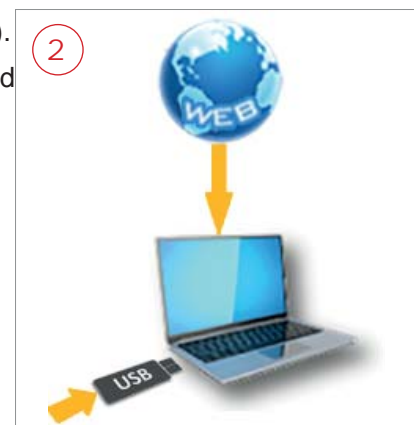

Fig. 12
- 2) Insert the USB PEN DRIVE into a PC connected to the internet (Fig. 12).